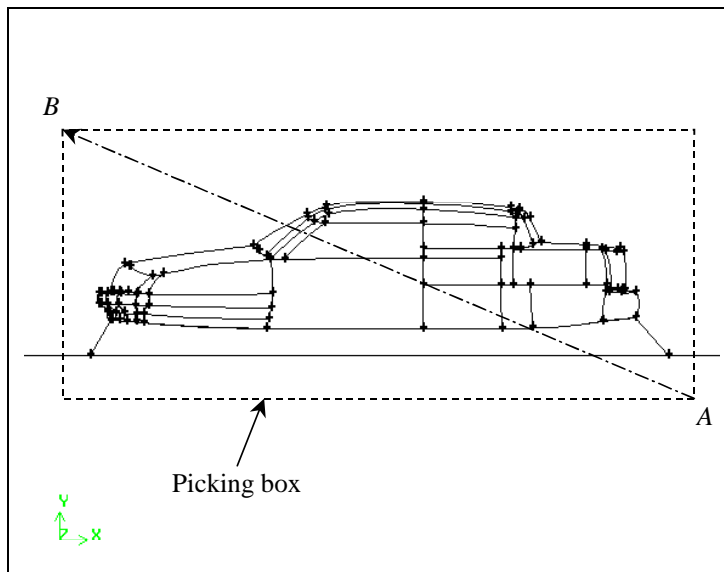

Figure 6-19: Picking box including all faces to which size functions will apply
- c) Click the **ORIENT MODEL** command button , to orient the model as shown in Figure 6-19.